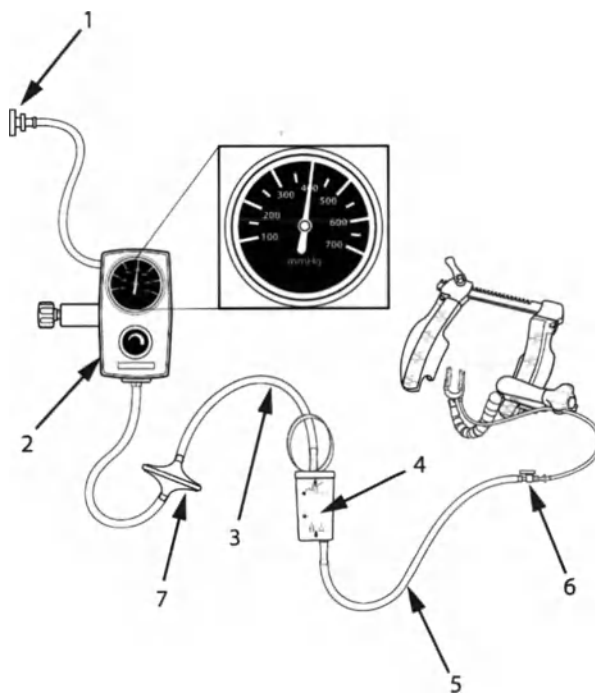

Figure 5: ACROBAT-4 Vacuum Stabilizer System
5. Attach the BLUE luer lock fitting of the ACROBAT-i Stabilizer Tubing Set to the BLUE luer fitting of the Vacuum Tubing on the ACROBAT-i Stabilizer. Attach the other end of the tubing from the Tubing Set to the bottom barbed fitting of the ACROBAT-i Canister or other fluid collection canister (not included). Make sure the Stopcock is in the closed air position. The Tubing Set with the Filter that is connected to the top of the Canister should then connect to a regulated vacuum source. Set the Vacuum Regulator to 400 mmHg. Refer to Figure 5 for proper Vacuum Tubing and system setup.